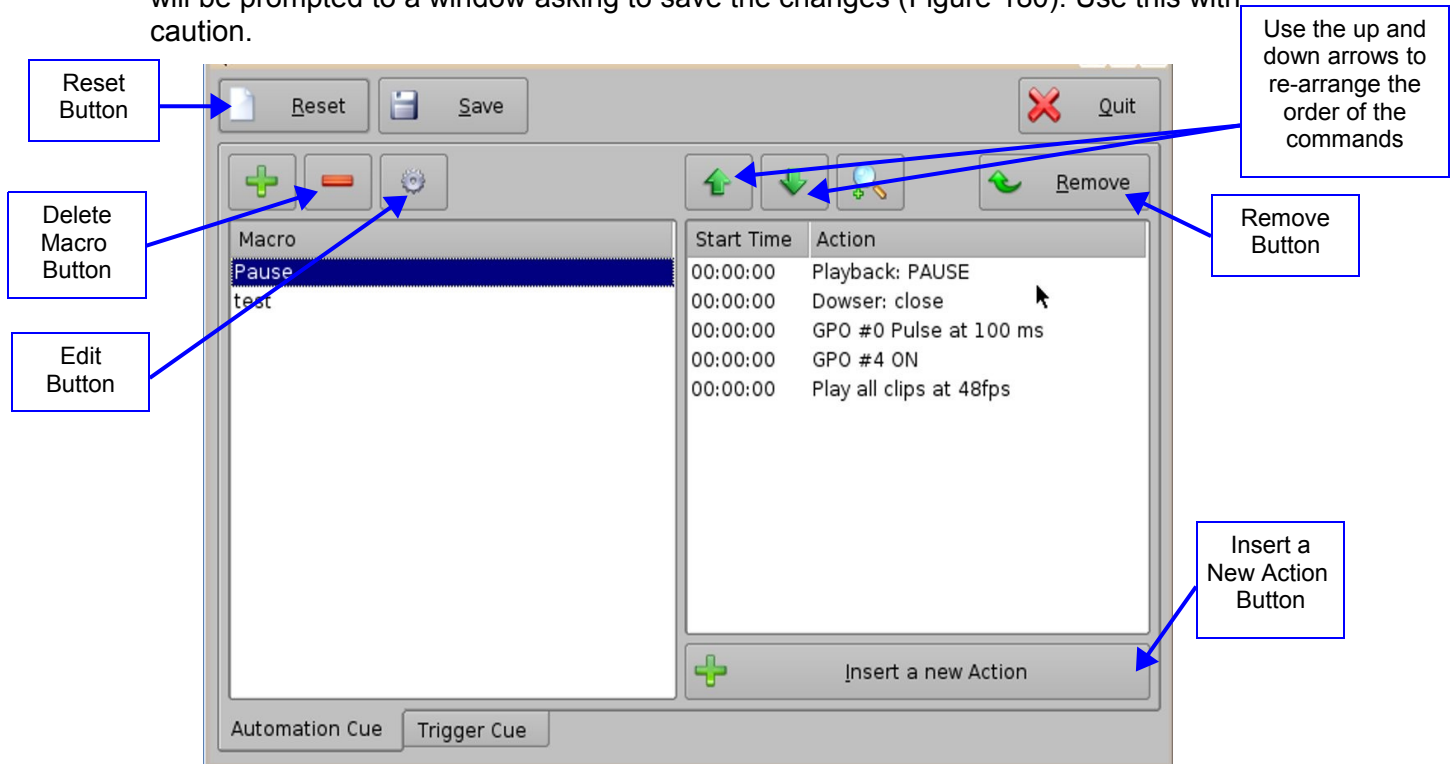

Figure 179: Macro Editor Window
- The new macro will appear in the Macro Editor Window (Figure 179).
- To remove (delete) a Macro Automation Cue, select it in the Macro Editor window and click the Delete Macro button (Figure 179).
- To edit the name of an existing Macro Automation Cue, click the Edit button or double-click on the Macro itself (Figure 179).
- Click the Insert a New Action button from the Macro Editor window (Figure 179).